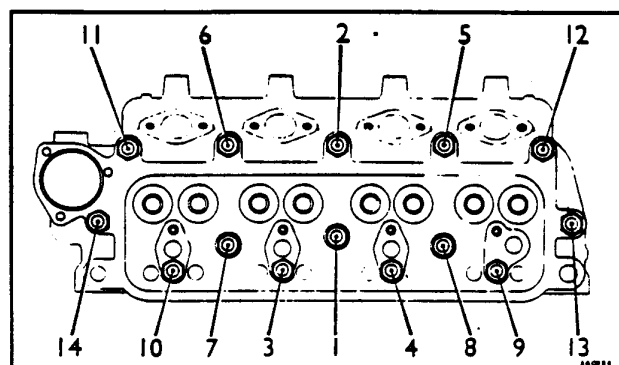

Fig. 2
- c. Tighten the cylinder head nuts in the order shown in Fig. 2, using tool 18G 694.